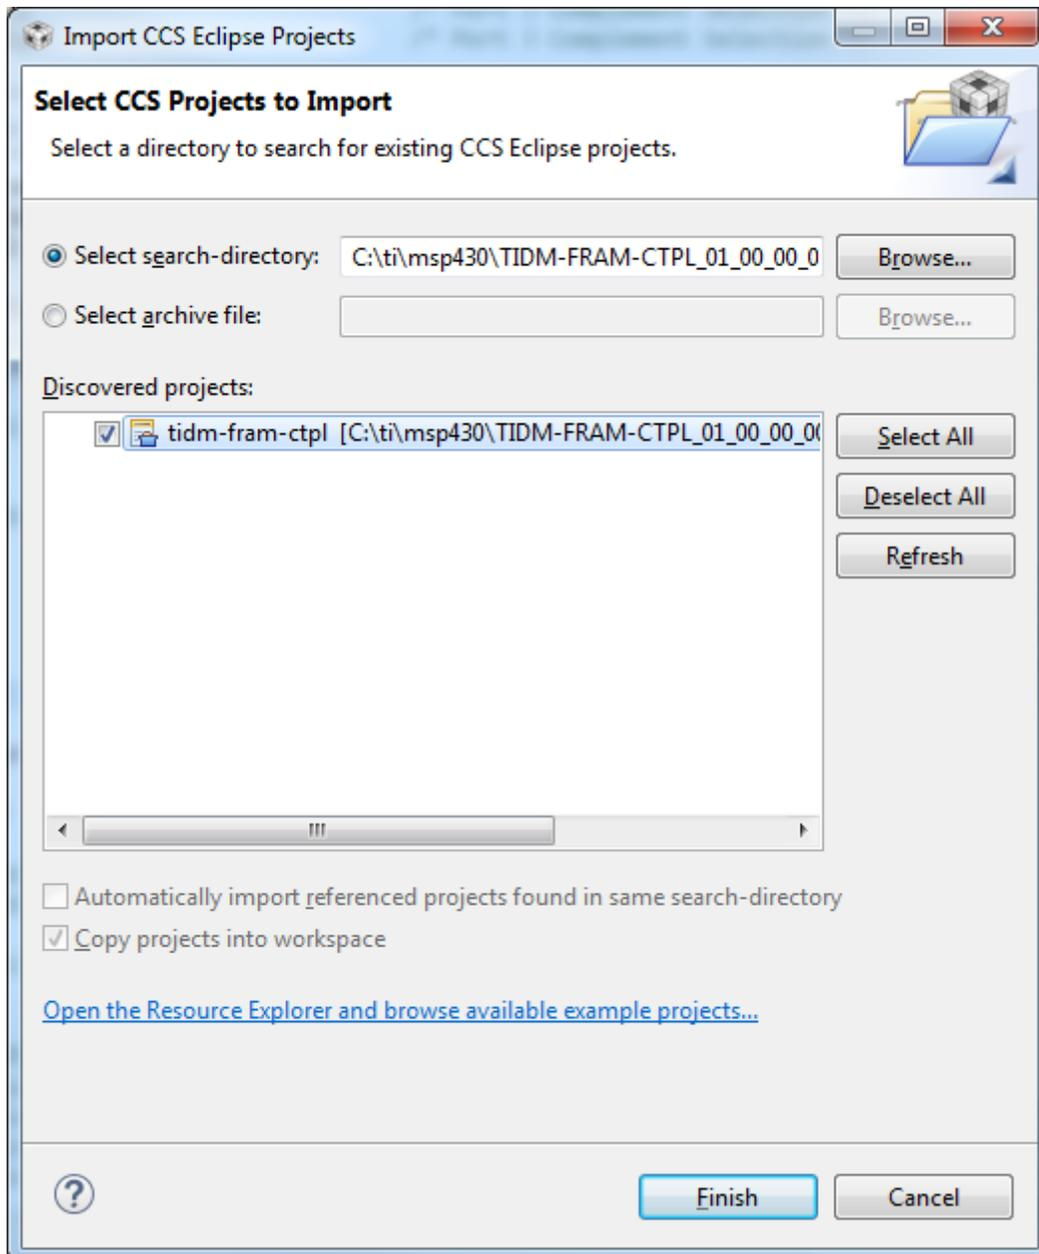

Figure 6. CCS Import Project
5. Navigate to c:\ti\msp430\TIDM-FRAM-CTPL_xx_xx_xx_xx\CCS\ (see Figure 6).